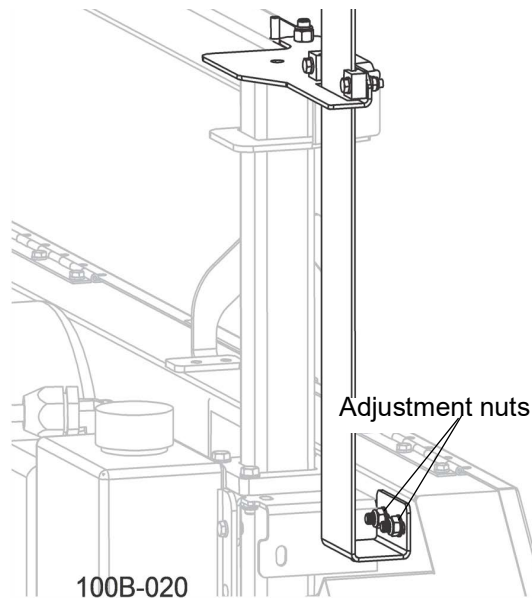

FIG. 4-13
3. Adjust the blade scale until it matches the blade-to-bed measurement. When the scale and the blade-to-bed measurements are the same, tighten the adjustment nuts of the scale. (See FIG. 4-13 .)